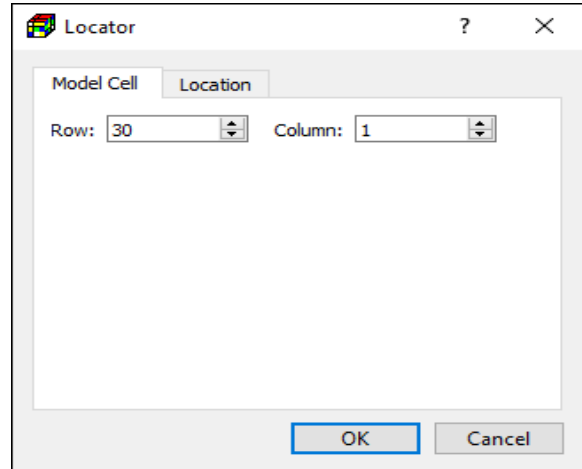
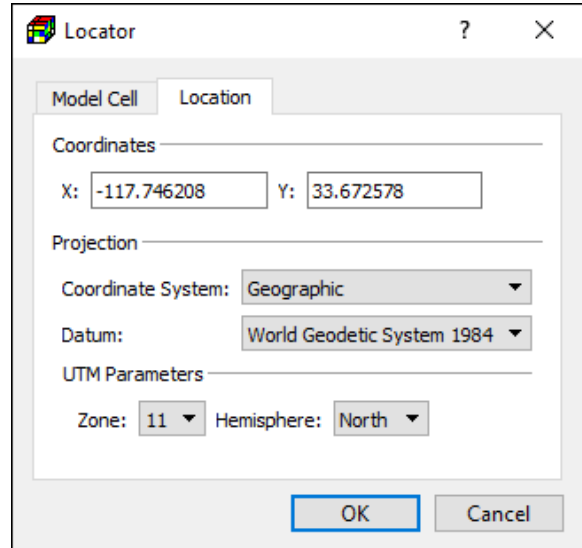

Figure 43. The Model Cell tab of the Locator dialog box
Figure 44. The Location tab of the Locator dialog box
Select *Tools > Location Tool* or click the  button on the toolbar to open the Locator dialog box that has two tabs. The Model Cell tab (Figure 43) allows you to locate a model cell, and the Location tab (Figure 44) allows you to pinpoint a location.
- Click on the Model Cell tab (Figure 43),
- Click the Location tab (Figure 44),